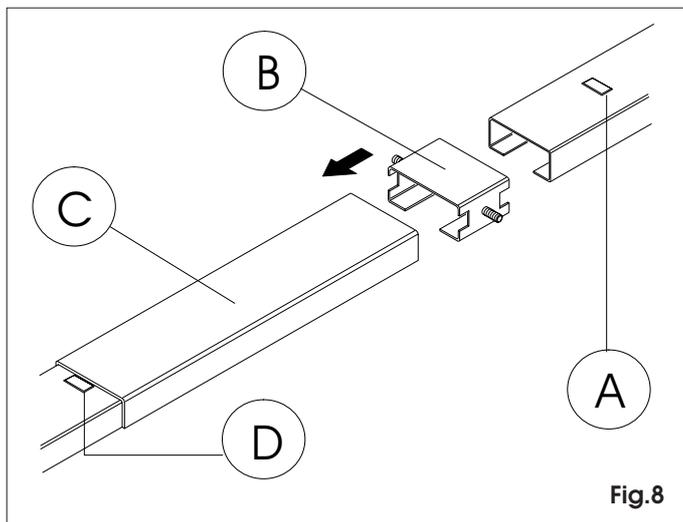
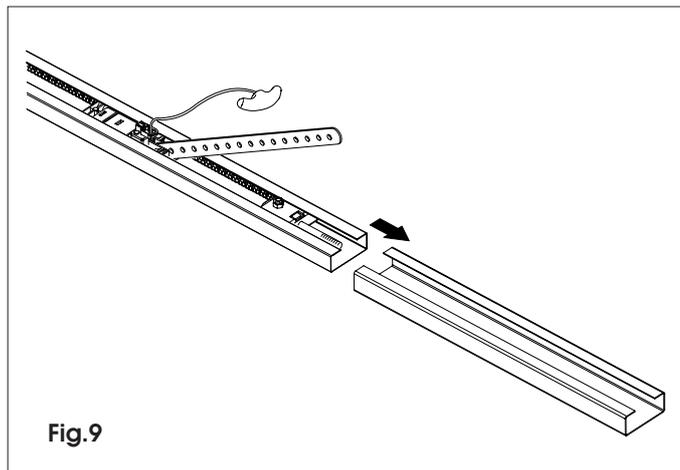
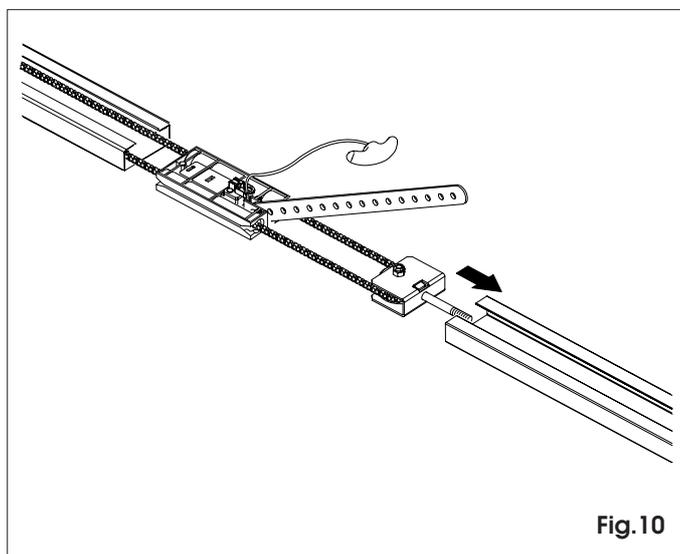

Fig.8
Fig.9
Fig.10
6.2 For the 625, 1225 and 1231 operator, we advise you to use the optional guide (fig.8 ref.B), fitting it on the central slide (fig.8 ref.C).
6.3 Insert the longitudinal member with chain in the central slide (fig. 9) until it meets the metal projection (fig.8 ref.D).
6.4 Fit a new longitudinal member (fig. 10) in the already installed unit, making sure that the metal projection shown in Fig. 8 ref.A comes into contact with the central slide.